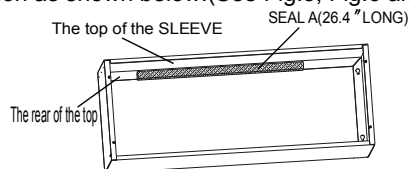
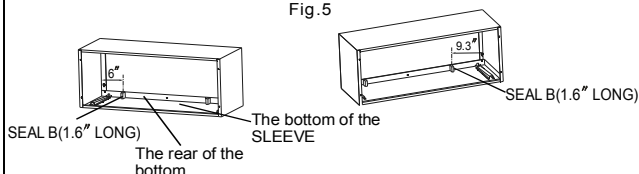
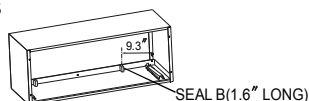

Fig.5
Fig.6
Fig.7
- Attach the SEAL A and SEAL B to the SLEEVE at proper position as shown below.(See Fig.5, Fig.6 and Fig.7)